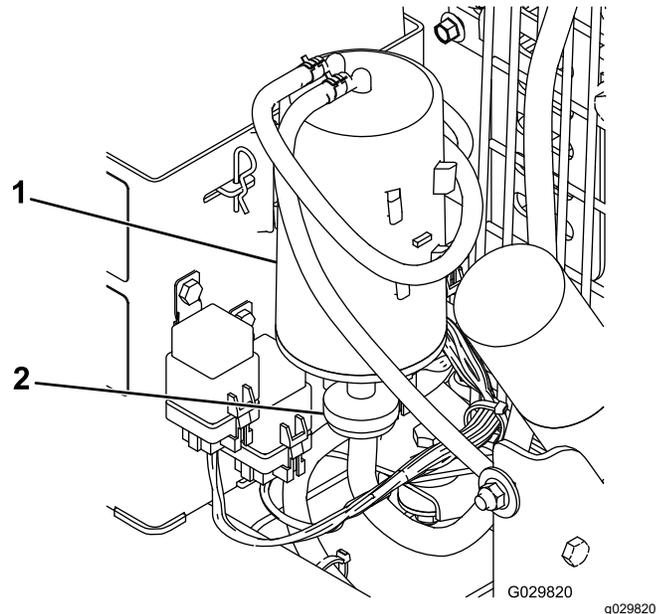

Figure 21
2. Remove and discard the carbon canister air filter, but retain the hoses (Figure 21).